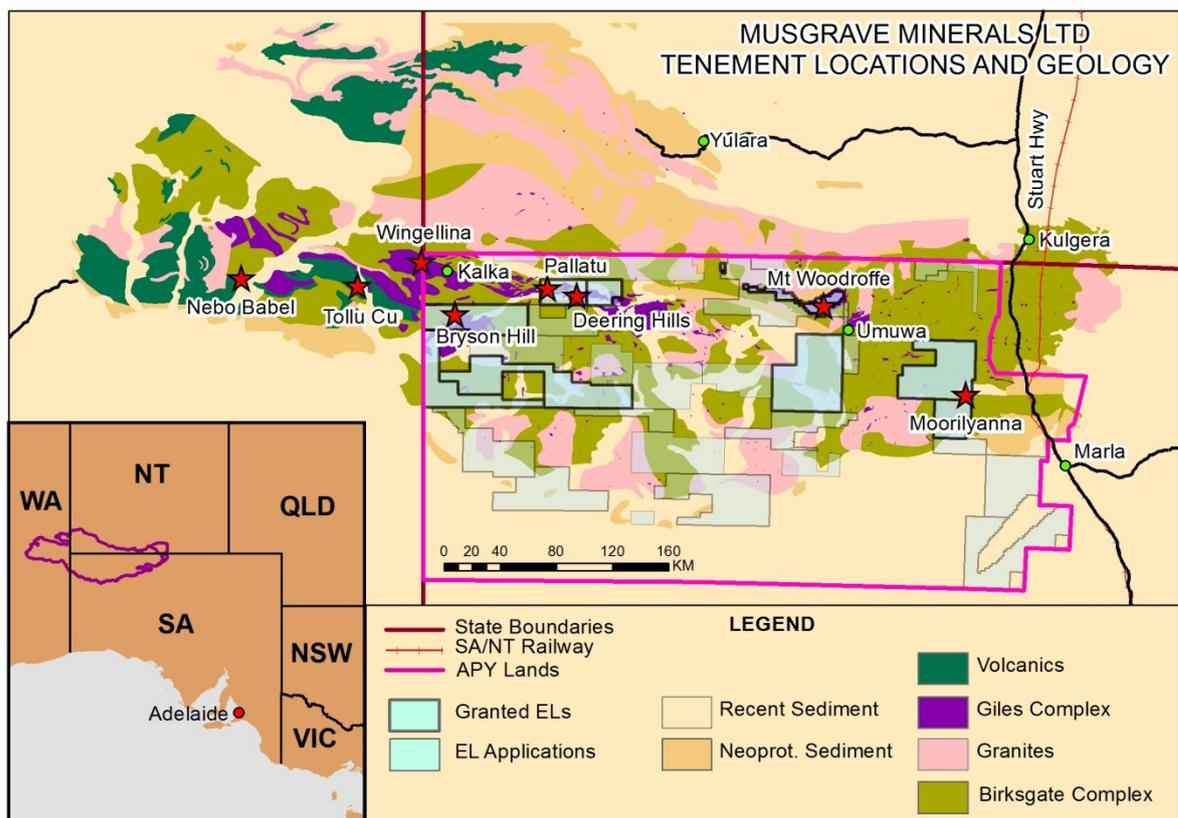

Figure 1: **Location of Musgrave Minerals' Exploration Licences in the Musgrave Region of South Australia.**
Musgrave Minerals Ltd (“Musgrave Minerals” or “the Company”) (ASX:MGV) is pleased to announce that it has confirmed and extended the ground electromagnetic (EM) conductor at the Pallatu 7 target on its Deering Hills project in the Musgrave Province of South Australia (Figure 1). Musgrave has also defined the Pallatu 6 EM conductor to the north-east.